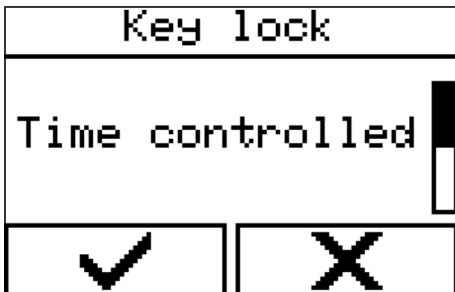

Fig. 51: Setting button lock
3. Select the menu item 'Time controlled' (Fig. 51).